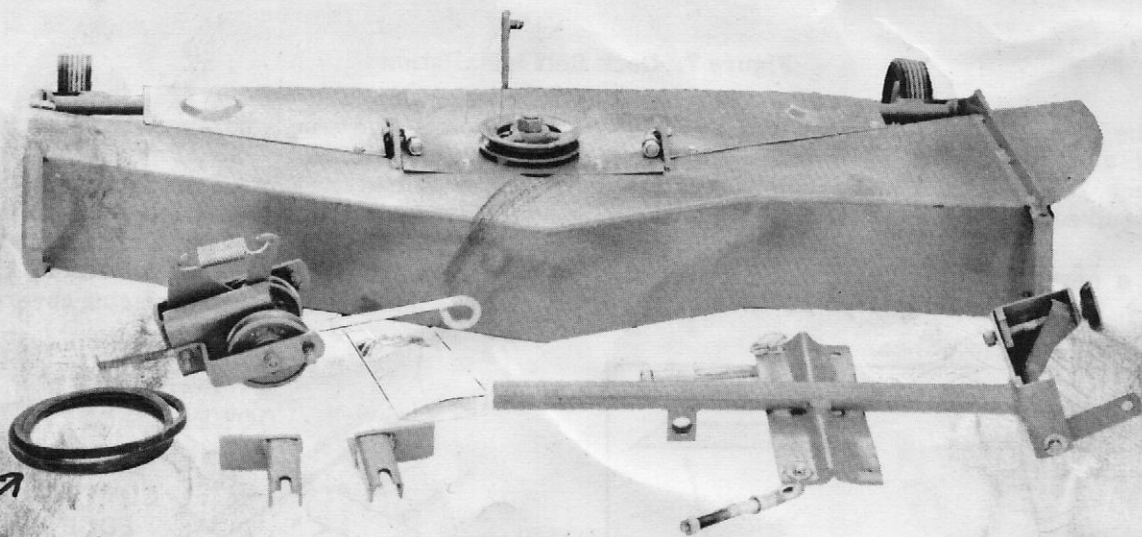

Figure 10. Mower Removal from Shipping Carton
- B. Before mounting the mower, lay out the individual parts as illustrated in Figure 10. To simplify the original installation, all components are preassembled as far as practical and the attaching hardware is installed in its proper location.